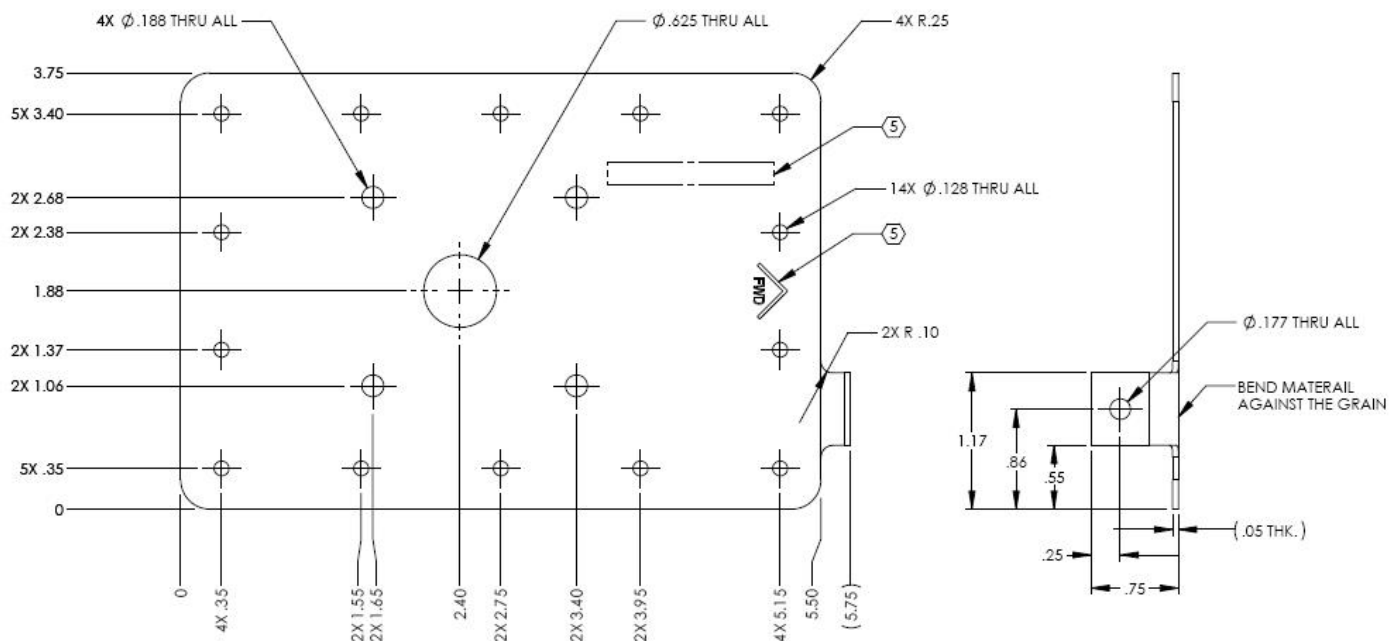

Figure 6-19: RSM Doubler P/N 503-00015-001
This STC approves the use of the doubler shown in Figure 6-19 for Aluminum Skinned aircraft only. Mounting the RSM externally to a composite or fabric aircraft is not approved by this STC and will require that the installer obtain separate approval of the RSM mounting on these classes of aircraft. After the RSM mounting has been approved, this STC may be subsequently installed.
- 3) Fabricate the doubler from 2024-T3 AMS-QQ-A-250/5 to the dimensions in Figure 6-19, Tolerances ± 0.030 .